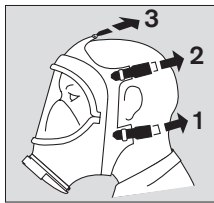
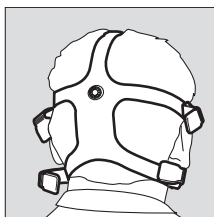

Fig. 4
Fig. 5
- Tighten both neck straps (Fig. 4, step 1), then the temple straps (Fig. 4, step 2) evenly towards the back of the head ensuring that the center of the harness remains positioned in the middle of the head (Fig. 5).
- Tighten the front strap (Fig. 4, step 3) only if necessary. Breathe normally. Expired air should easily flow out of the exhalation valve.